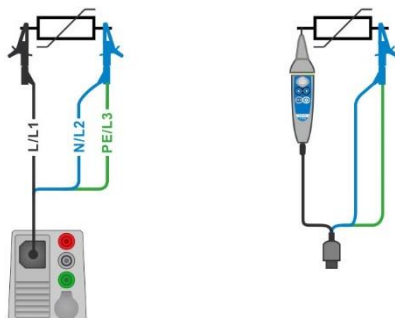
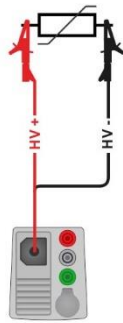

Figure 7.19: Connection of 3-wire test lead and Tip commander (Range: 1000 V)
Figure 7.20: Connection of 2.5 kV test lead (Range: 2500 V)
- ▶ Connect test leads to object under test (see **Figure 7.19** and **Figure 7.20**).